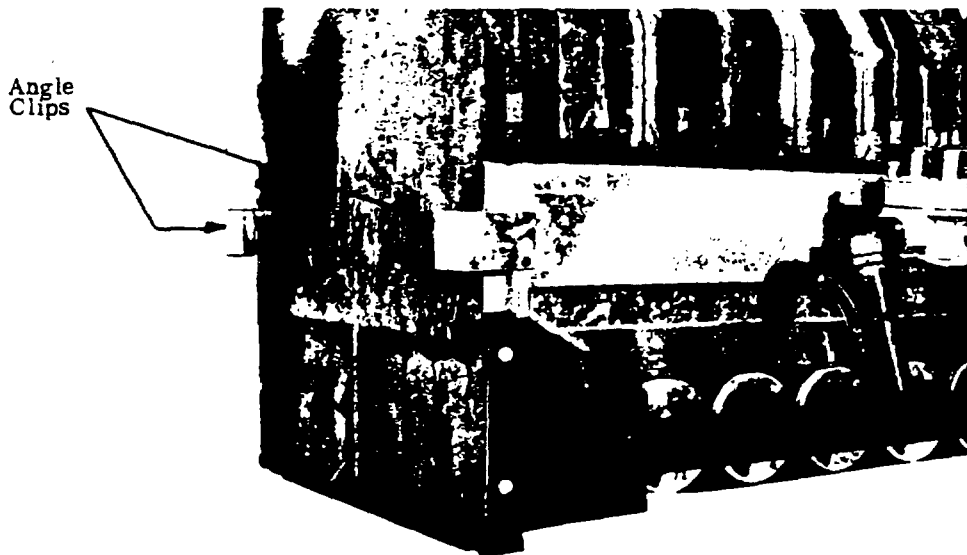

FIG. 10
2. Install the four jacket angle clips to the front and rear plates with #8 x 3/8" sheet metal screws (see Fig. 10)